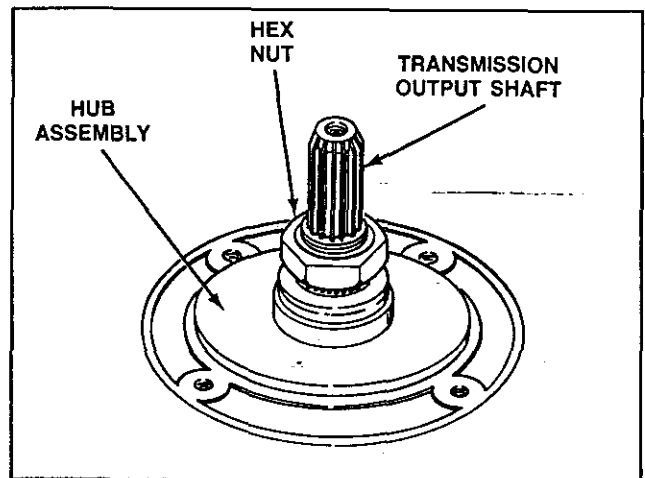

Figure 1
4. Remove the large hex nut, *Figure 1*, using No. 237P4 Hex Wrench.